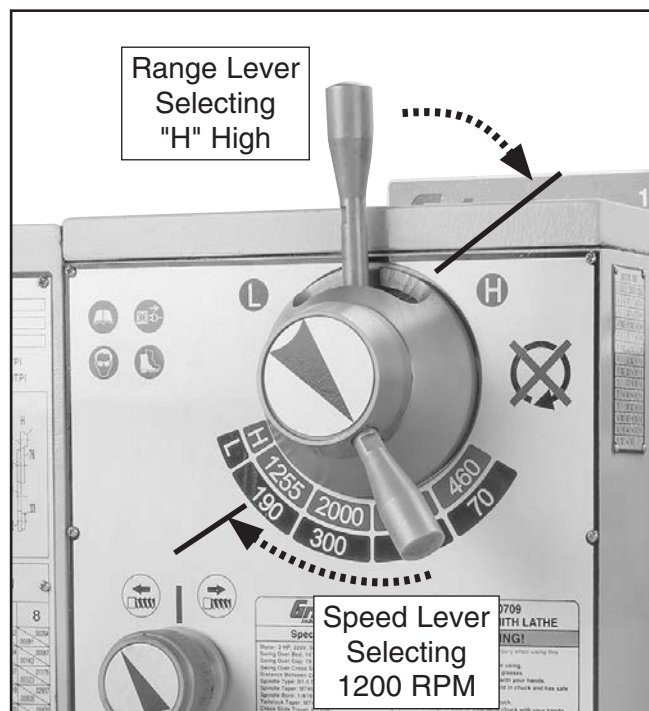

Figure 47. Spindle speed levers.
This lathe is equipped with two levers shown in **Figure 47** that are used to achieve eight spindle speeds. **Never move either lever while the spindle is rotating, or gear clash and tooth fracture may occur.** When the lathe is stopped, if the levers do not fully engage, the spindle must be slightly rotated by hand.
If the spindle speed range lever (see **Figure 47**) is positioned in low "L", the four spindle speeds listed in the black indicator are available. If the range lever is positioned in high "H", the four spindle speeds listed in the red indicator are available.
The spindle speed lever shown in **Figure 47** has eight speed selections depending on if the spindle speed range lever is in high or low.
3. Move the spindle speed lever to the left so it is over the required speed, for example 1200 RPM is being selected in **Figure 47**.